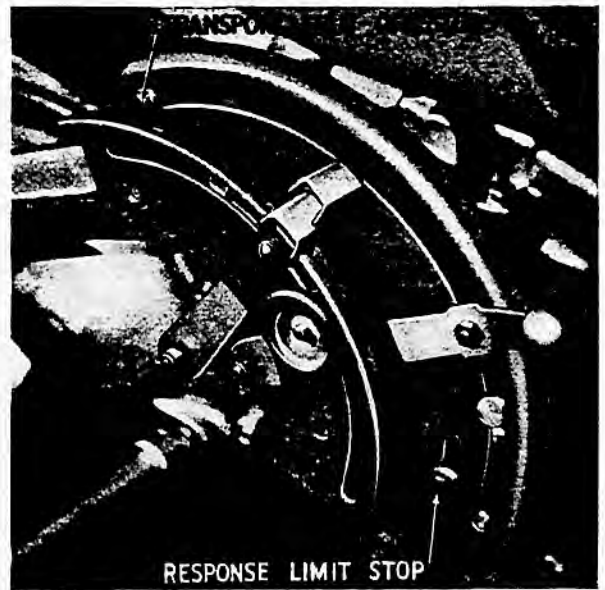
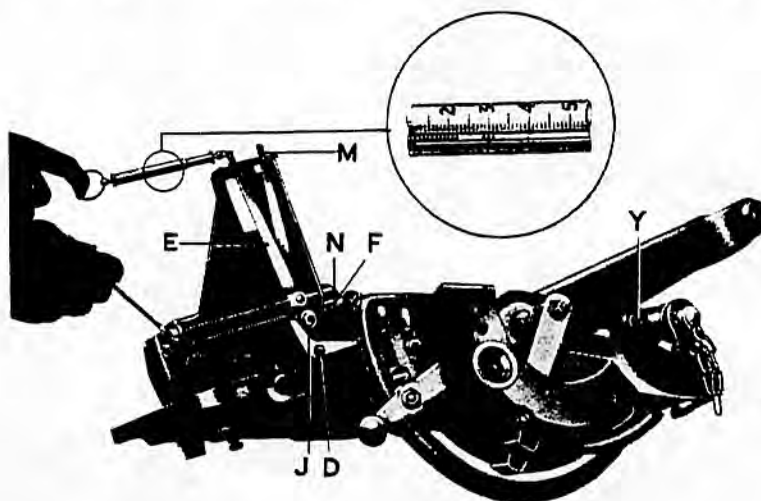

FIG. 28 CONTROL LEVERS AT SECTOR MARKS
FIG. 30 SETTING HYDRAULIC SYSTEM LEVERS
1. Detach the implement from the tractor, place the lower links fully down and the quadrant levers at their respective sector marks on the quadrant, i.e. the operational lever at "FAST" and the draft control lever between the two dots—see Fig. 28.
Check the control spring (91) for end play and, if there is any end play, remove the two special cap screws (90) from the hydraulic lift rocker link, loosen the socket screw in the side of the housing (shown "Y" in Fig. 30) and turn the retainer nut (92) in or out as required to eliminate all play. Remember that having the nut either too loose or too tight will cause end play.
Install retainer pin (95) and replace spring assembly after making sure that the overload disc (94) is correctly positioned at the front end of the cylinder. Screw in retainer nut (92) until there is no end play—remember that having the nut too tight or too loose will cause end play—tighten socket screw ("Y", Fig. 30) and refit rubber boot (93).
4. ADJUSTMENT OF POSITION AND DRAFT CONTROL LEVERS E. & M. (Fig. 30)
Place the quadrant levers at their sector marks (Fig. 28) and the lift arms in the fully lowered position and then check the adjustment of the two vertical levers (E. & M.) individually by means of a spring balance as shown in Fig. 30. The adjustment is correct when 3 lb. *(1361 grms.) is required on the end of the lever to spring it just into contact with the front of the slot in the lever support bracket. Any adjustment necessary is made by the appropriate self-locking nut on guide rods (F and N).
5. ADJUSTMENT OF ECCENTRIC CAM (J) (Fig. 30)
With the quadrant levers still at their sector marks (Fig. 28) and the lift arms in the fully lowered position, rotate the small eccentric cam (J) into firm contact with the cam arm (D) and tighten the lock nut to the 5-6 lb. ft. (.69/.83 kg.), taking care not to rotate the cam at the same time. Check this adjustment by moving the operational lever down from its sector mark into the response range, as the lever leaves the "FAST" position, the bottom of the vertical lever (E) should begin to move to the rear.
With the quadrant levers at their sector marks (Fig. 28), check the adjustment of the valve actuating lever. The self-locking nut on the end of the rod from the pump carrying the lever should be adjusted so that there is light contact between the
Remove long hitch pin from centre housing and insert a length of $\frac{3}{4}$ " (19 mm.) rod. Start the tractor and raise the operational lever until a distance of 11.8" (300 mm.) is obtained between the centre of the rod and the centre pin in the lift arm. Make this measurement accurately and if desired a chisel mark may be made on the lift arm and the lift cover housing to be used as an index mark for possible future re-adjustment. Tighten the Transport Shut-Off Stop (Fig. 28) in contact with the rear edge of the lever at this position.
Loosen the Response Limit Stop (Fig. 28) and move the operational lever carefully forwards through the response range until the lower links begin to rise. Next, bring the operational lever rearwards until the lower links begin to fall very slowly and lock the lower stop in contact with the lower edge of the lever at this position.